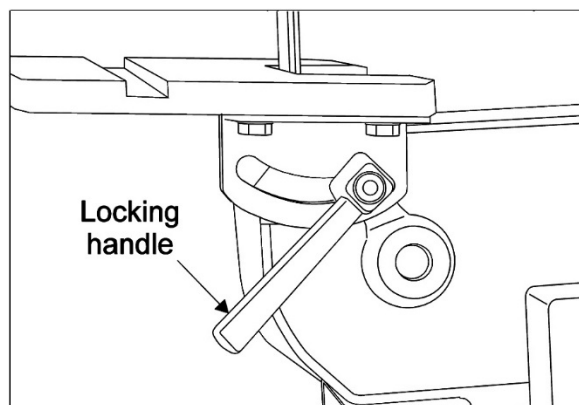

Figure 4: Belt table installed, handle in place
8. To tighten handle (and secure table), pull out on handle (Figure 4). While holding handle out, turn handle counterclockwise. Release handle and tighten in clockwise direction. Repeat as required to secure table.